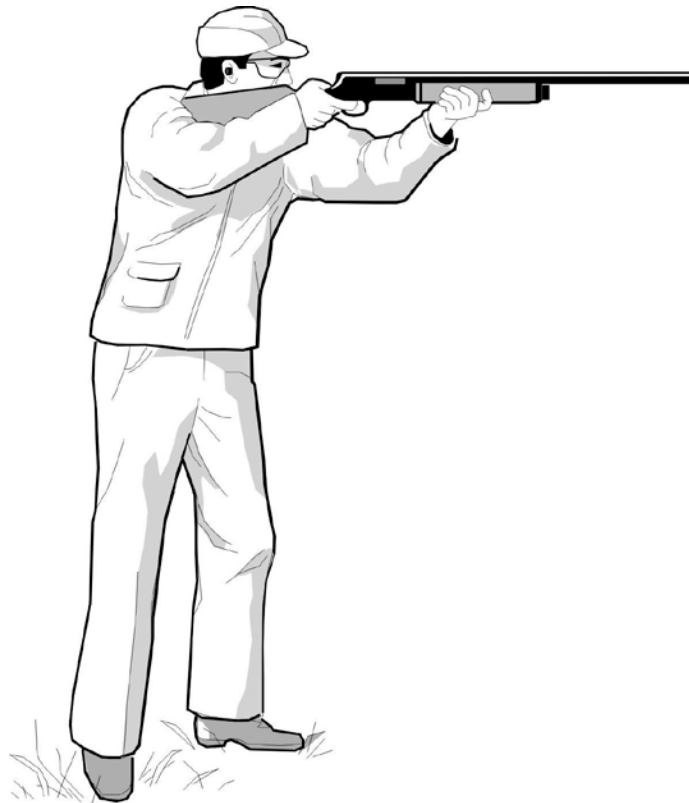

Figure 71. Shotgun shooting position
- a. Shooting a shotgun is different from shooting a rifle. With a rifle you aim precisely. With a shotgun you point at the target (Figure 71). Some shotguns are equipped with adjustable sights and are primarily used to fire slugs.